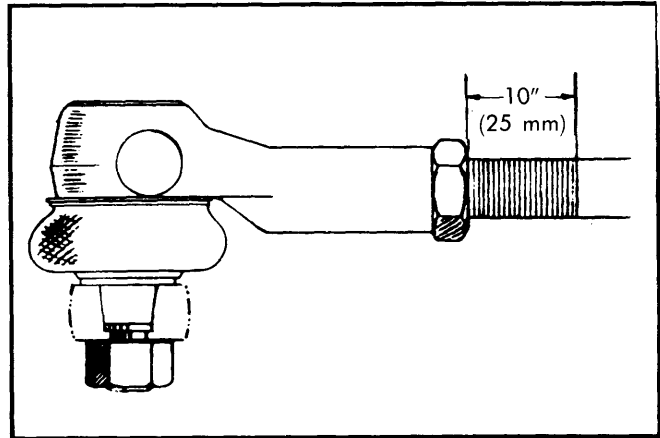

Fig. 1 View Showing Tie Rod Length Measurement
**NOTE** — After adjustment of toe-in, measurement "A" (Fig. 1) of tie rod must not exceed 1.0" (25 mm) or 1.02" (26 mm) for power steering models. For tie rods opposite each other, the difference between measurements "A" must not exceed .08" (2 mm).